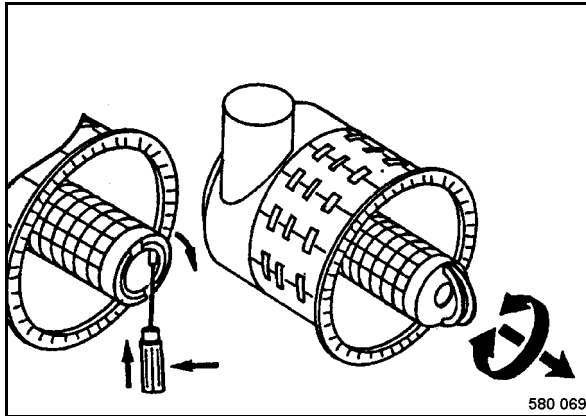

Fig. 159
- Perforate the seal of the safety filter element from inside to outside using a suitable tool (Fig. 159) and pull both latches up.